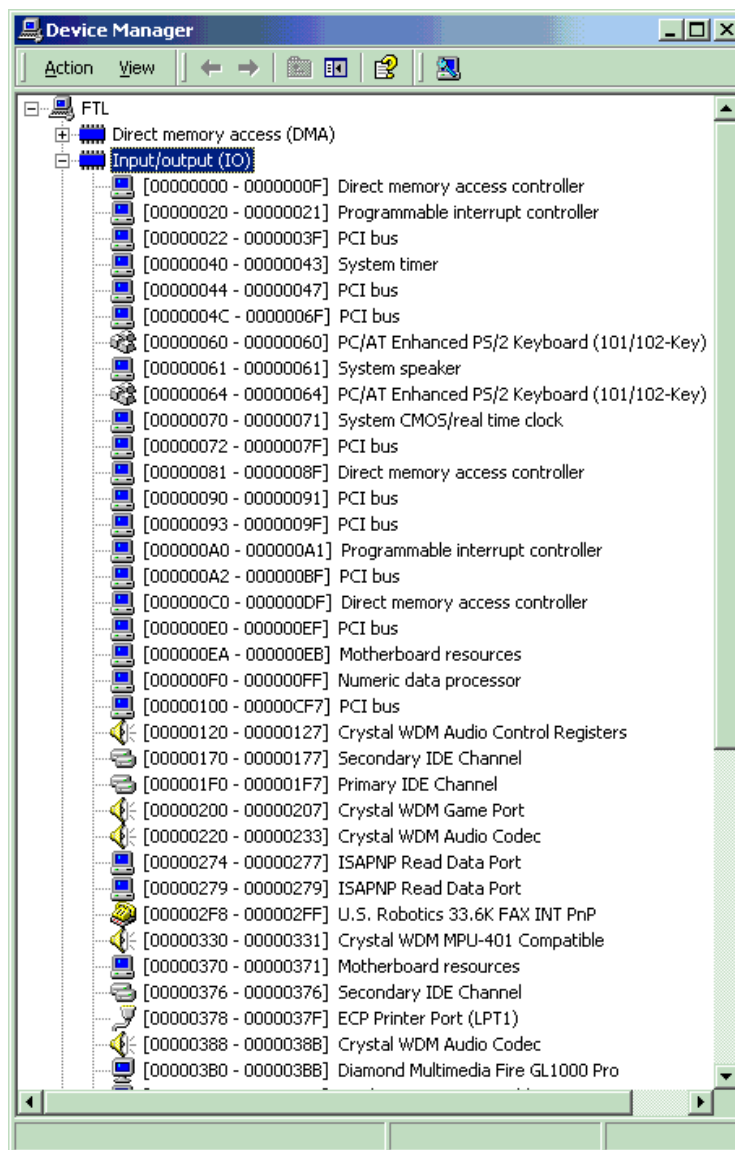

Figure 159. Device Manager Window Displaying the System Resources
3. In the Device Manager window, select the **View** menu. Then click **Resources by Type**. A window appears that shows system resources (Figure 159).